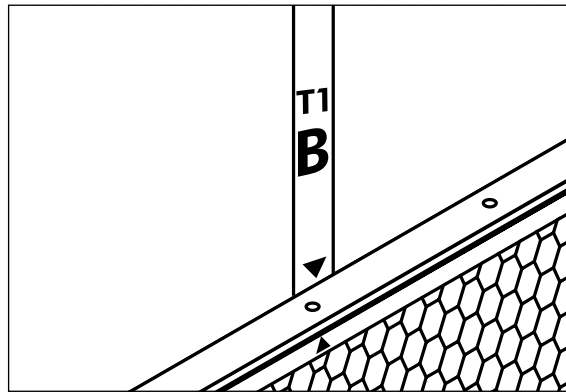

Figure AP-11: Multiple tower labels.
D. When **multiple towers** are going to be assembled, each tower will be identified by the label “**T**” and the number of tower, for example: **T1, T2, T3**, etc. See Figure AP-11.